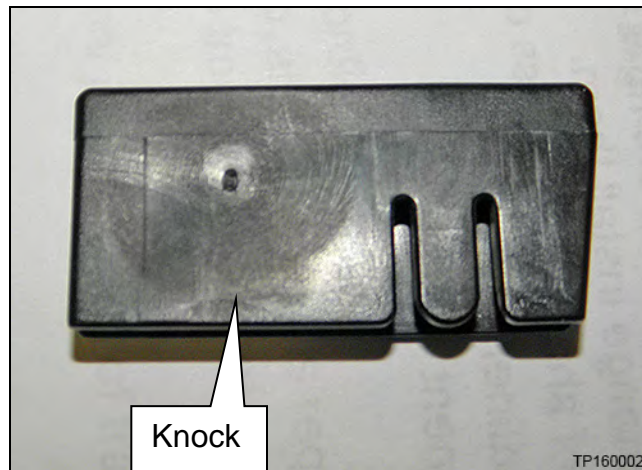

Figure 1
- Detached knocks (knock shown in Figure 1) may lodge in the moonroof track and prevent correct moonroof, wind deflector, or sunshade operation.